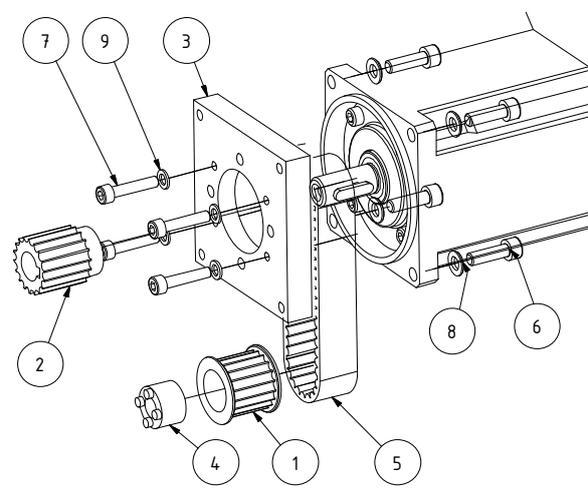

Figure 20: Parallel drive
- ◆ Remove 4 screws completely (please refer to Figure 20 Pos. 7). First at the bottom, then at the top.
- ◆ Dismantle motor / gearbox flange (please refer to Figure 20 Pos.3) by loosening the screws (please refer to Figure 20 Pos.6).
- ◆ Mount motor / gearbox flange (please refer to Figure 20 Pos.3) with the screws (please refer to Figure 20 Pos.6 & Pos.8).
- ◆ Screw in 4 screws (please refer to Figure 20 Pos.7) until the motor flange fits. Do not yet tighten.